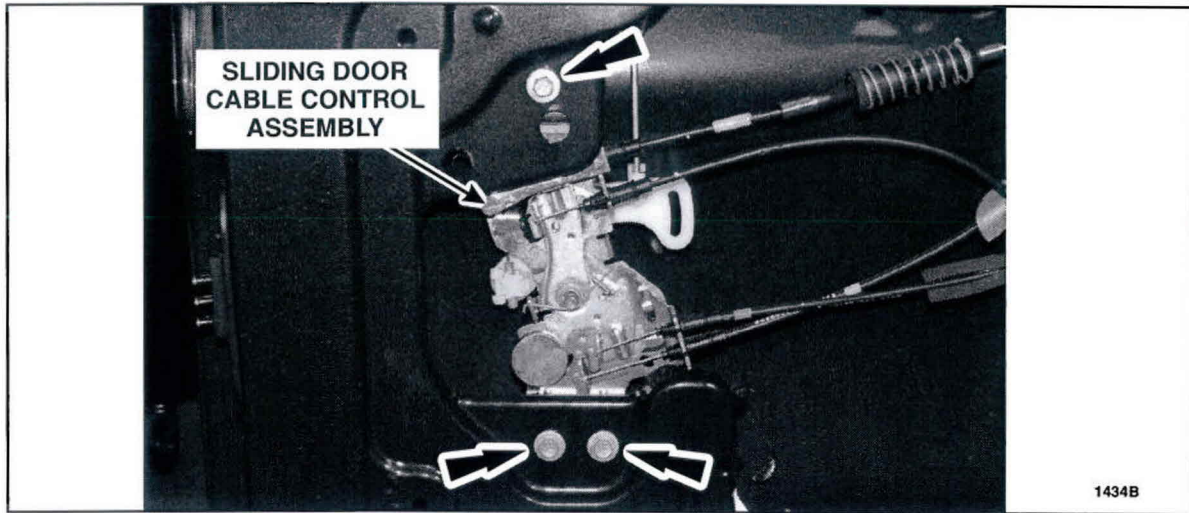

FIGURE 2
4. Remove the three bolts retaining the sliding door cable control assembly. See Figure 2.
18. Position the sliding door cable control assembly and install the three bolts. See Figure 2.